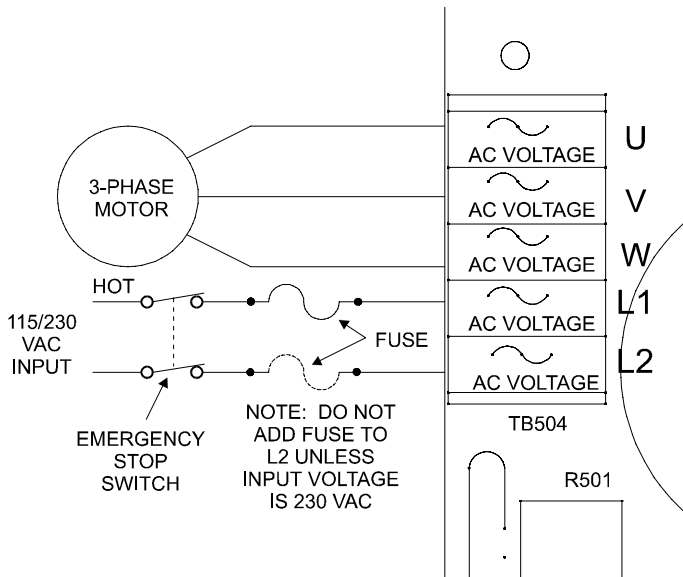

Figure 4. Power and Motor Connections
- ⚠ Minarik strongly recommends the installation of a master power switch in the voltage input line (see Figure 4, *Power, Fuse and Motor Connections*). The switch contacts should be rated at a minimum of 200% of motor nameplate current and 250 volts.**